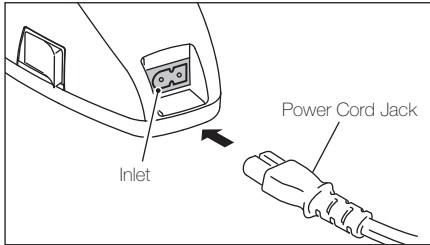

Fig. 1
1. Insert the power cord jack into the inlet at the back of the battery charger. (Fig. 1)